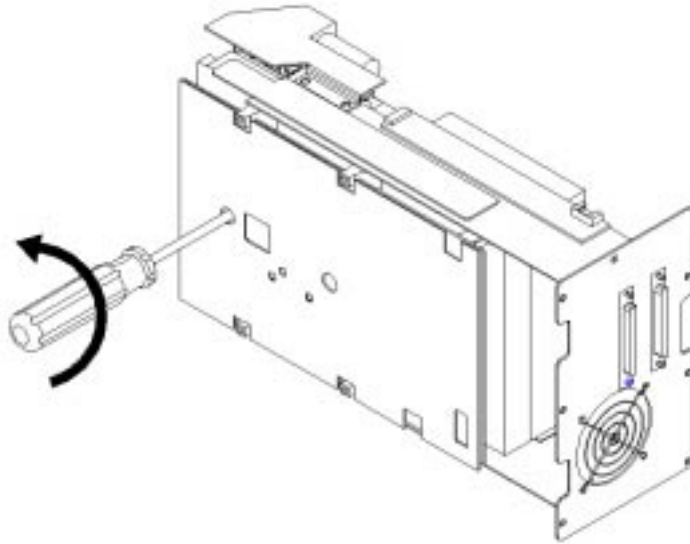

FIGURE 5-7 Rewinding a Stuck Tape
1. When the drive is removed, lay it on its side, as shown FIGURE 5-7.
3. Turn the screwdriver counterclockwise to rewind the tape (FIGURE 5-7).